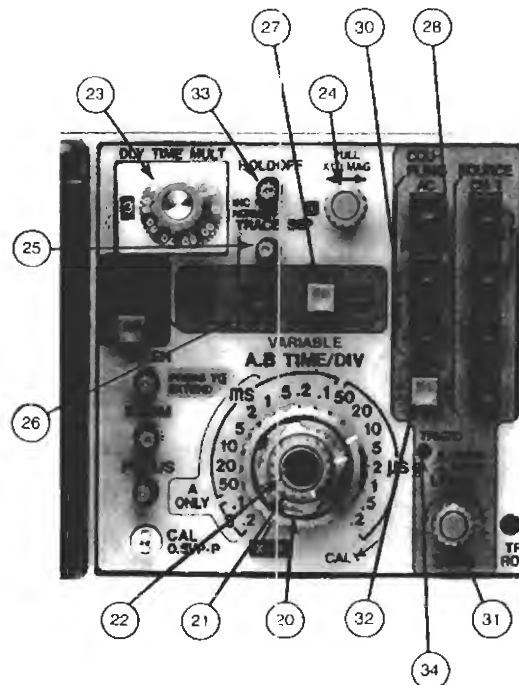
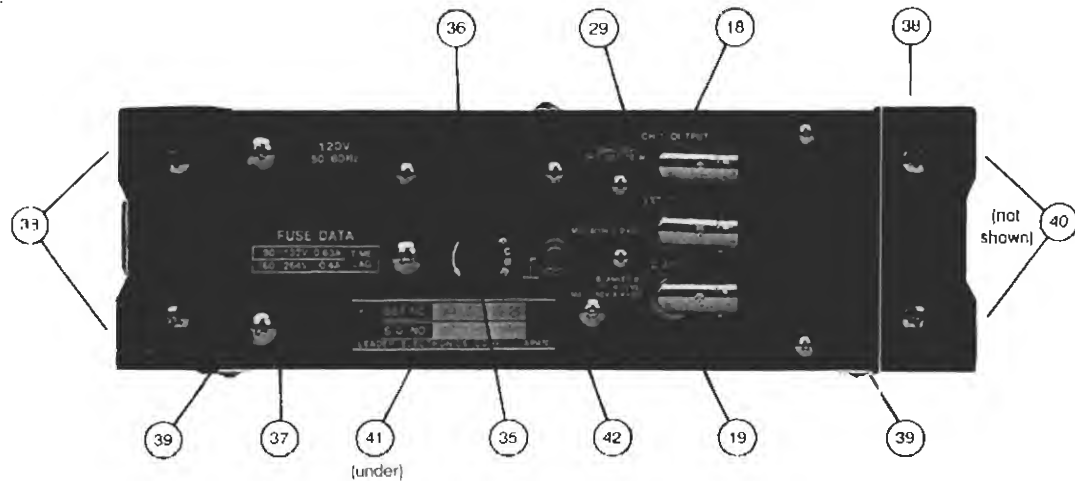

Figure 2-3. Sweep and trigger block
Figure 2-4. Rear panel and case features
Refer to Figure 2-2 for references (9) to (17), and Figure 2-4 for reference (18).
- (9) CH 1 or X IN connector
Refer to Figure 2-3 for references (20) to (28) and (30) to (34), and to Figure 2-4 for reference (29).
- (20) A TIME/DIV switch To select either the calibrated sweep rate of the main (A) timebase, the delay time range for delayed-sweep operation, or X-Y operation.
- (21) B TIME/DIV switch To select the calibrated sweep rate of the delayed (B) timebase.
- (22) Time VARIABLE control Provides continuously-variable adjustment of sweep rate between steps of the A TIME/DIV switch. TIME/DIV calibrations are accurate only when the Time VARIABLE control is click-stopped fully clockwise.
- (23) DLY TIME MULT control To determine the exact starting point within the A timebase delay range at which the B timebase will begin sweeping. The absolute delay time is equal to the sweep time rate (A TIME/DIV) multiplied by the DLY TIME MULT setting.
- (24) Horizontal or X Position control To adjust the horizontal position of the traces displayed on the CRT. Clockwise rotation moves the trace(s) to the right. During X-Y operation, this control must be used for X-axis positioning.
Refer to Figure 2-4 for references (35) to (42) and (19).
(35) FUSE Holder	Receptacle permits quick fuse replacement without opening case. Insert No. 2 Philips screwdriver in cross slot and rotate CCW to remove cap and fuse. When replacing fuse, make sure its ratings match those shown in the FUSE DATA chart.	(38) Back-panel Bumpers	Support the oscilloscope for vertical operation and protects the back-panel features.
(36) Power Connector	Permits removal or replacement of AC power cord.	(39) Bottom Feet	Support the oscilloscope for shelf mounting.
(37) FUSE DATA chart	Indicates the proper fuse rating for each operating-voltage range.	(40) Side Feet	Support the oscilloscope in a horizontal position when used with the carrying handle.
(41) Tiltstand	Front position stand angles the oscilloscope for bench top operation and the back position angles the scope for vertical operation.
(42) Ground Connector	Provides an attachment point for a separate ground lead.